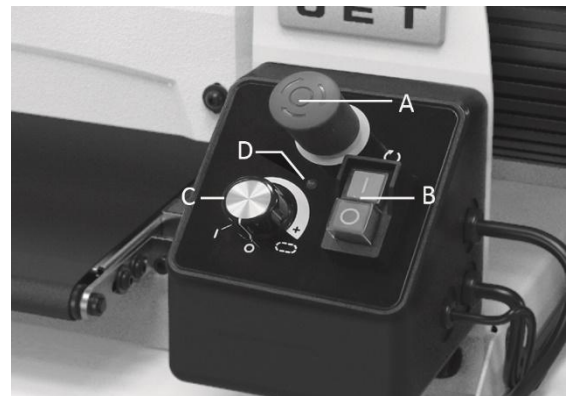

Figure 9-1: control panel
3. Start sanding drum (with control panel switch, Figure 9-1).
4. Start conveyor and select feed rate (with control panel dial, Figure 9-1).
2. Disengage emergency stop by clockwise turning the red button or pulling it up (A, Figure 9-1).
**Note: Error Indicator (D) may flash continuously to remind that the conveyor speed dial is NOT set at OFF position before starting the operation.**